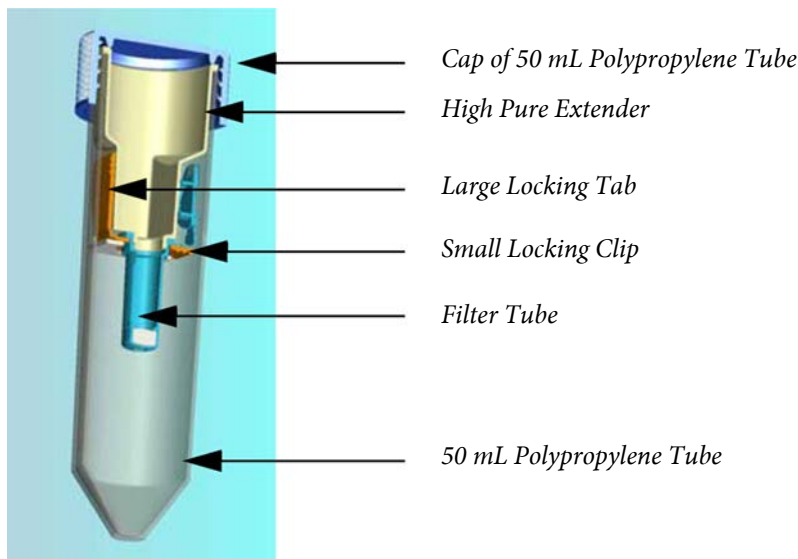

Figure 1. High Pure Extender Assembly (HPEA)
9. Transfer the mixture to an appropriately labeled High Pure Extender Assembly (HPEA) Unit. The HPEA Unit is depicted in Figure 1 and comes pre-assembled as a 50 mL Polypropylene Tube containing a High Pure Extender to hold the plasma, and the Filter Tube to bind the cfDNA.